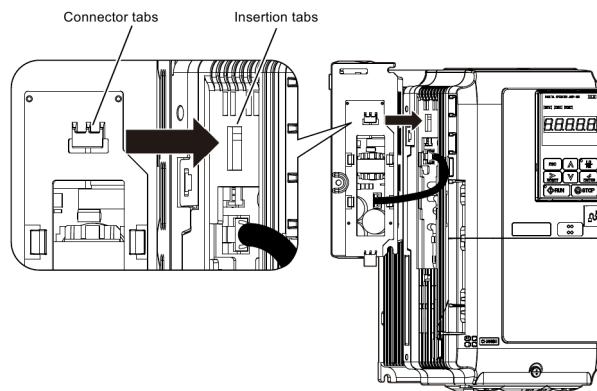

Figure 9: Align the Option and the Drive
4. Align the connector tabs on the option with the insertion tabs on the drive as shown in Figure 9.